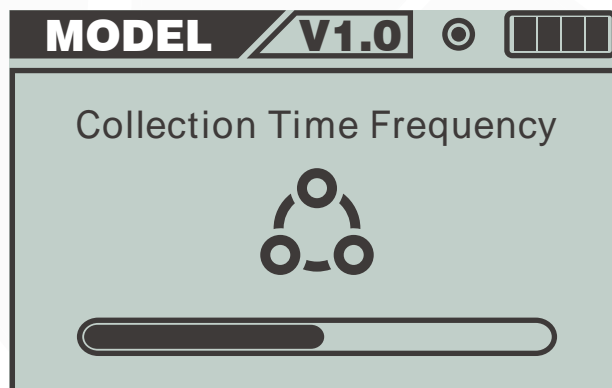

Figure 12. Circular collection time setting.
■ Icon ⑤, circular collection time setting. Press Enter on the menu button to enter the circular collection time setting of the sensor. Figure 12 shows the current sensor collection time, which can be modified by pressing ▲ or ▼ button. After modification, press SAVE on the button menu to save.